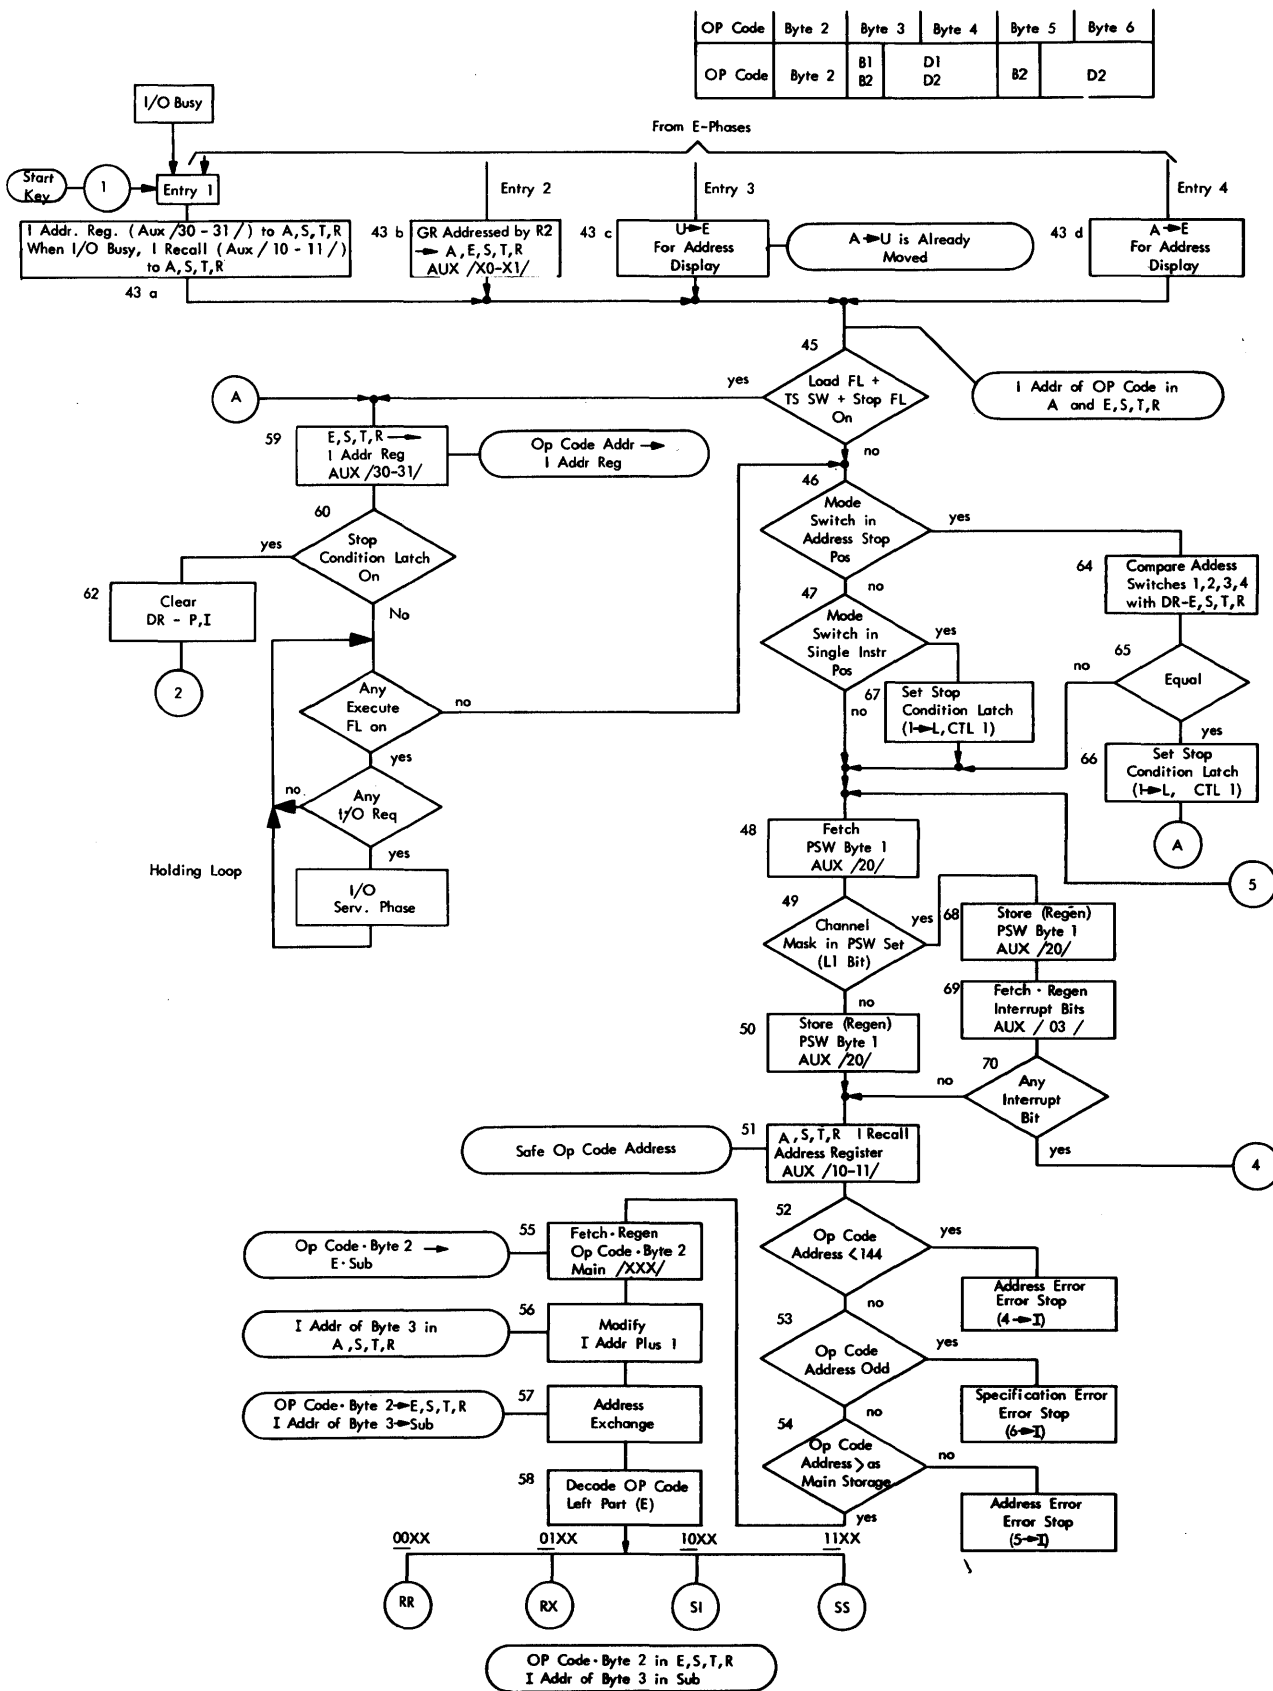

Figure 3-29 I-phase Entry
Description (Figure 3-29)
In Figure 3-29, I-phase is entered either in Entry 1, 2, 3, or 4.
address of the NSI Op Code. This address is not in the I Address Register when Entry 2, 3, or 4 is used to enter the I-phase (Figure 3-29).
When the Transfer E phase for the CR (Console Reader) or MFCM I/O unit is executed, the micro-program enters the I phase Entry 1 as shown on Figure 3-29 to start the Load-program routine as given in the following steps.
#### Micro-program Description (Figure 3-29)
- 43a. The I-phase is entered by Entry 1 (Figure 3-29). The NSI Address located in the I-address Register is set into DR-A, S, T, R to address the NSI Op code.